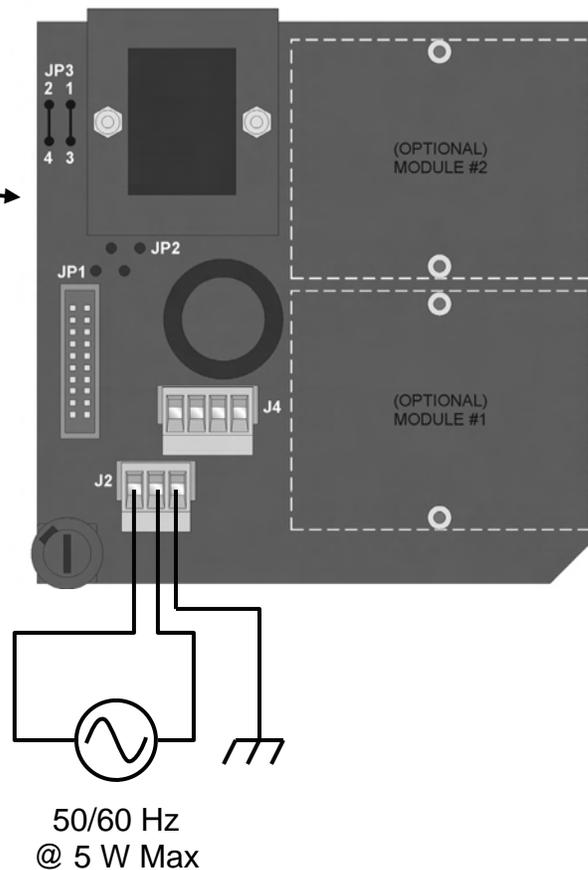
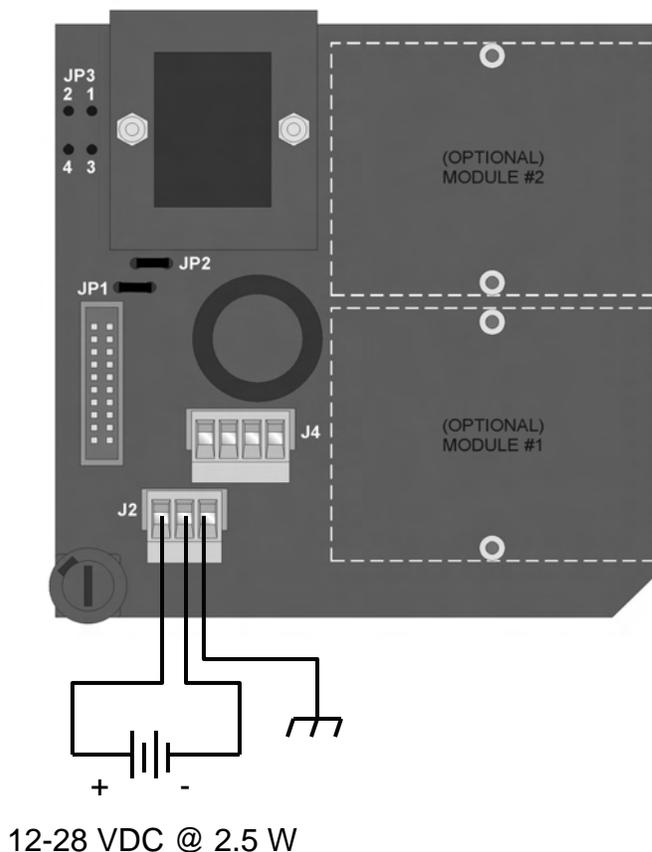

Figure 3.3
Figure 3.4
Connect power to the screw terminal block marked J2 in the DFX transmitter. See **Figure 3.3** on page 3.5 for AC power supplies and **Figure 3.4** on page 3.6 for DC power supplies. Utilize the conduit hole on the left side of the enclosure for this purpose. Use wiring practices that conform to local and national codes (e.g., The National Electric Code Handbook in the U.S.).
3. See **Figure 3.3** for AC connection schematic. Wire gauges up to 14 AWG can be accommodated in the DFX terminal blocks.
2. Connect the DC power source as illustrated in the schematic in **Figure 3.4**. Wire up to 14 AWG can be accommodated in the DFX terminal blocks.